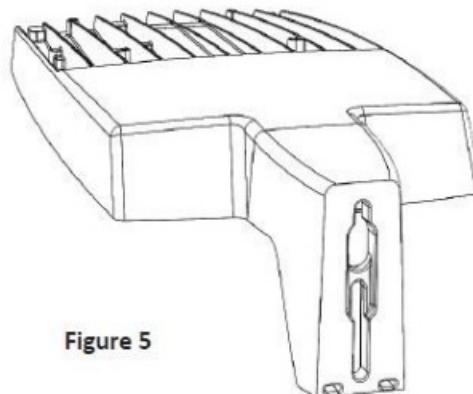

Figure 5
5. The luminaire is supplied with a clearance slot in the back to allow wires to be pulled into the pole on existing hole patterns. Insert the wires through the clearance slot shown in Figure 5 and pull them into the pole.